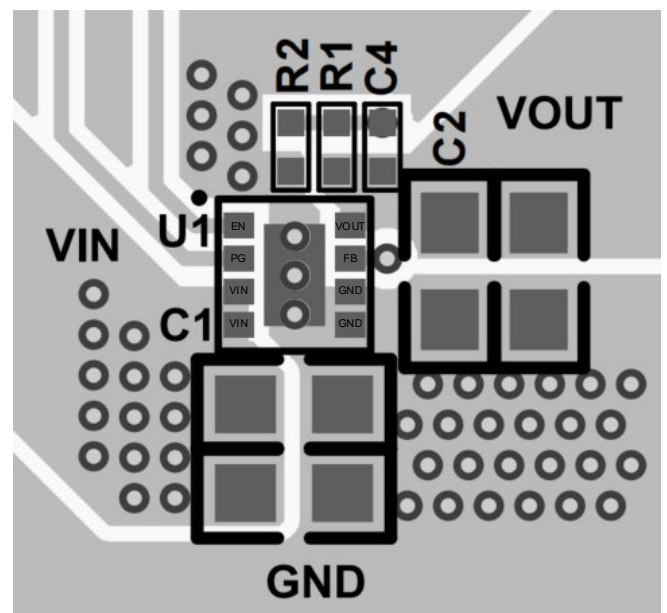

Figure 4. Layout Top Layer
- Refer to Figure 4 for an example of component placement, routing and thermal design.